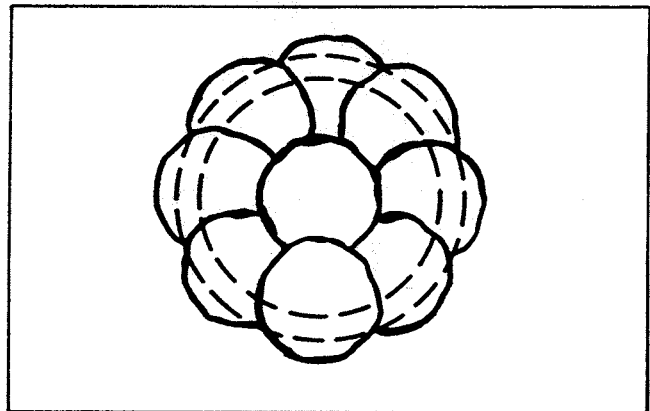

Figure 31
4. Continue making short tack welds alternating from side to side until the hole is filled. See Figure 31